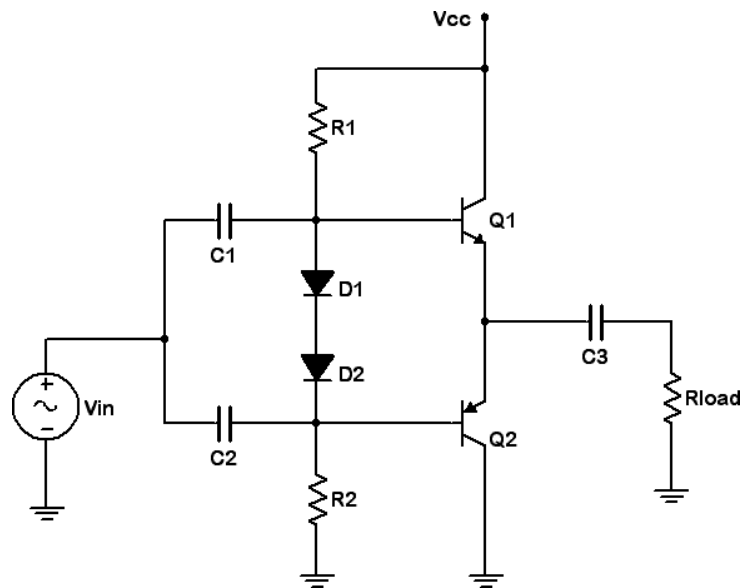
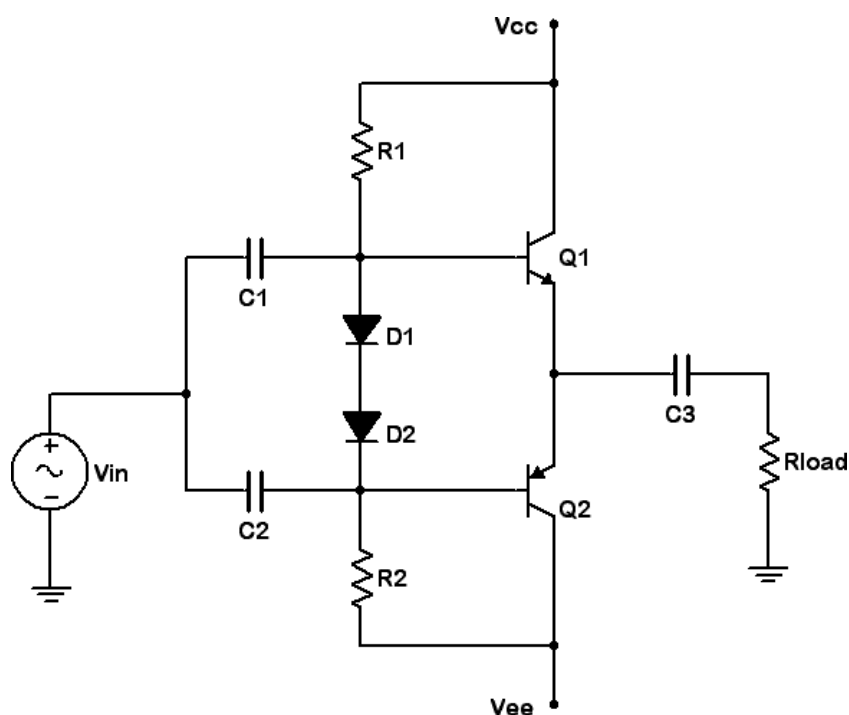

Figure 2
Figure 3
5. Replace R_3 and R_4 with switching diodes, as shown in Figure 2. Repeat steps 2 through 4 using this circuit and Table 2. Overall, the superior matching of the diodes to the transistors should result in decreased notch distortion.
6. Add the negative power supply so that the circuit now appears as Figure 3. Set the power supplies to ± 6 volts DC. This should produce similar bias and amplification results to the single 12 volt supply circuit of Figure 2. Although the output coupling capacitor is no longer needed (one advantage of the dual supply topology), leave it in for safety sake.